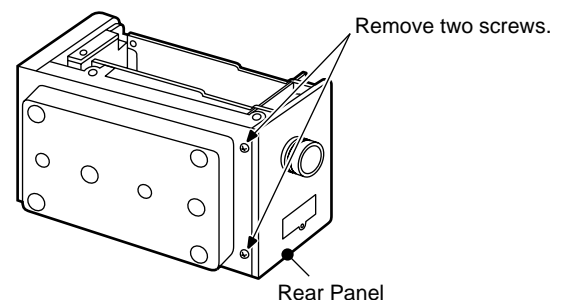

Fig. 2-4
- Referring to Fig. 2-4, remove two screws that secure the Rear Panel and remove the Rear Panel.